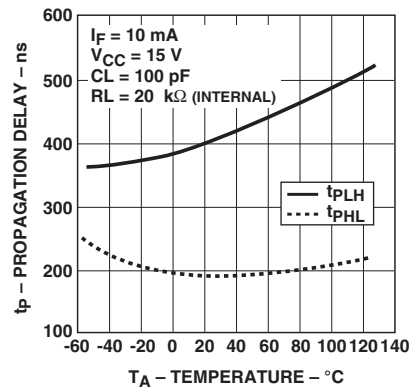

Figure 8. Propagation delay with internal $20\text{ k}\Omega$ R_L vs. temperature
- Due to the tolerance of the internal resistor, and since propagation delay is dependent on the load resistor value, performance can be improved by using an external 20 kΩ 1% load resistor. For more information on how propagation delay varies with load resistance, see Figure 8.